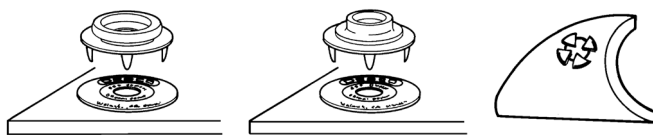

Figure 9. Installing push and clinch mat grounding snap.
- B. Center the prongs on the snap assembly with the label. Apply pressure to the snap until the prongs come through the back of the mat, then clinch over prongs to secure snap as shown in Figure 9.